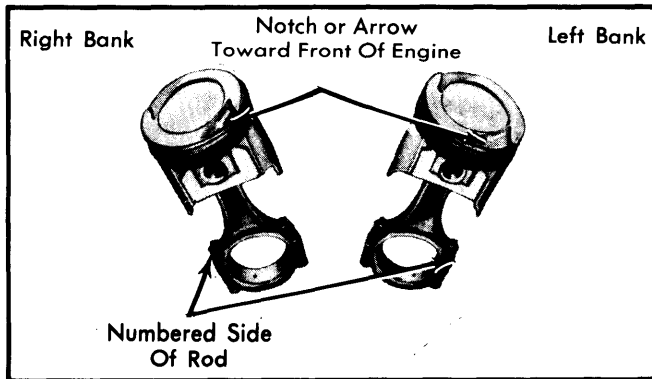

Fig. 7 Piston and Connecting Rod Index Mark Locations
2) Install each piston and rod assembly (with notch on piston head facing front of engine) in its respective bore. See Fig. 7. Guide connecting rod onto crankshaft journal while tapping piston head with wooden hammer handle to seat connecting rod against crankshaft. Install rod caps and tighten. Check bearing clearance and connecting rod side clearance.